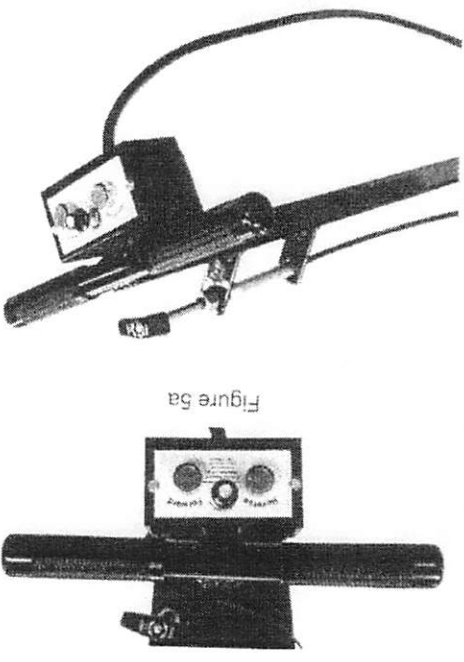

Figure 5a
10. Install the control box to the flat panel, located right under the handle near the handle grips. Install using two 1/4"-20 bolts (See Figure 5a and 5b).